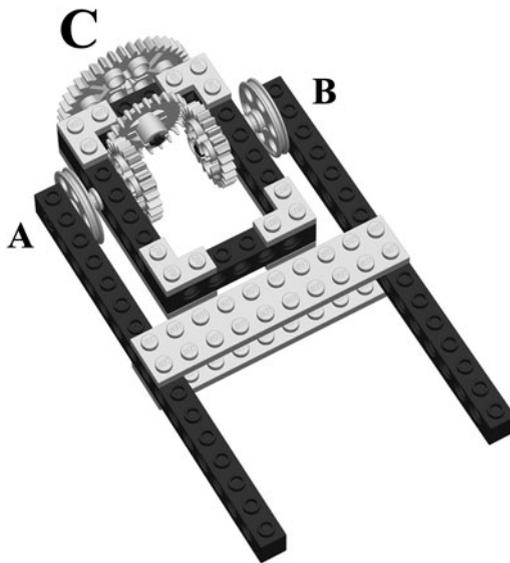

Fig. 8-8. Wrist joint.
**Try This:** The machine in Fig. 8-8 consists of two rectangular frames with three rotating joints. It's a simple machine that you can build in just a few minutes.